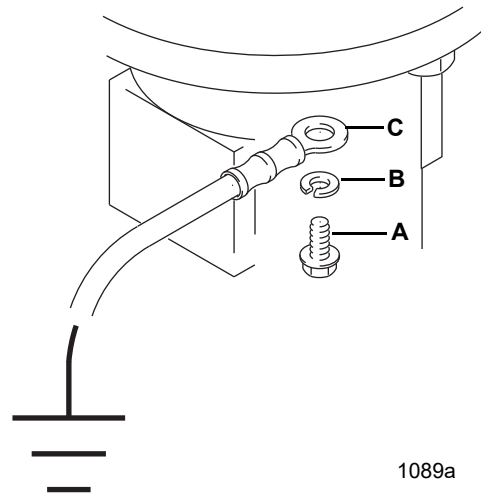

FIG. 3: Ground the Agitator
Remove the grounding screw (A) and lockwasher (B). See FIG. 3. Secure the ground wire terminal (C) to the agitator with the screw and lockwasher. Connect the other end of the ground wire to a true earth ground.